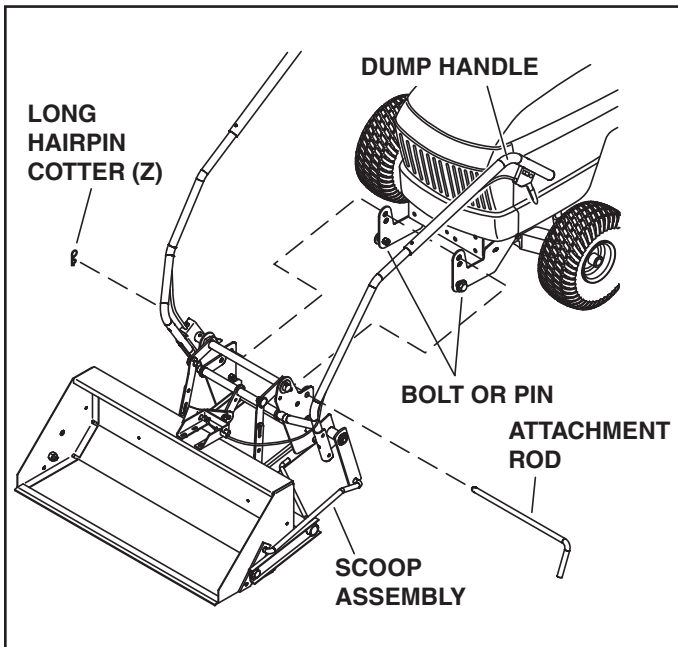

FIGURE 24
STEP 25: MOUNT SCOOP TO TRACTOR (SEE FIGURE 24)
- Align the scoop with the side plates on the front of the tractor. Lift the rear of the scoop and slide the notches in the scoop frame onto the bolts or pins in the tractor side plates. Stand on the left side of the tractor and push down on the scoop dump handle until the holes in the scoop frame and the holes in the side plates are aligned. Install the attachment rod through the holes from the left side and secure it with a long hairpin cotter (Z).